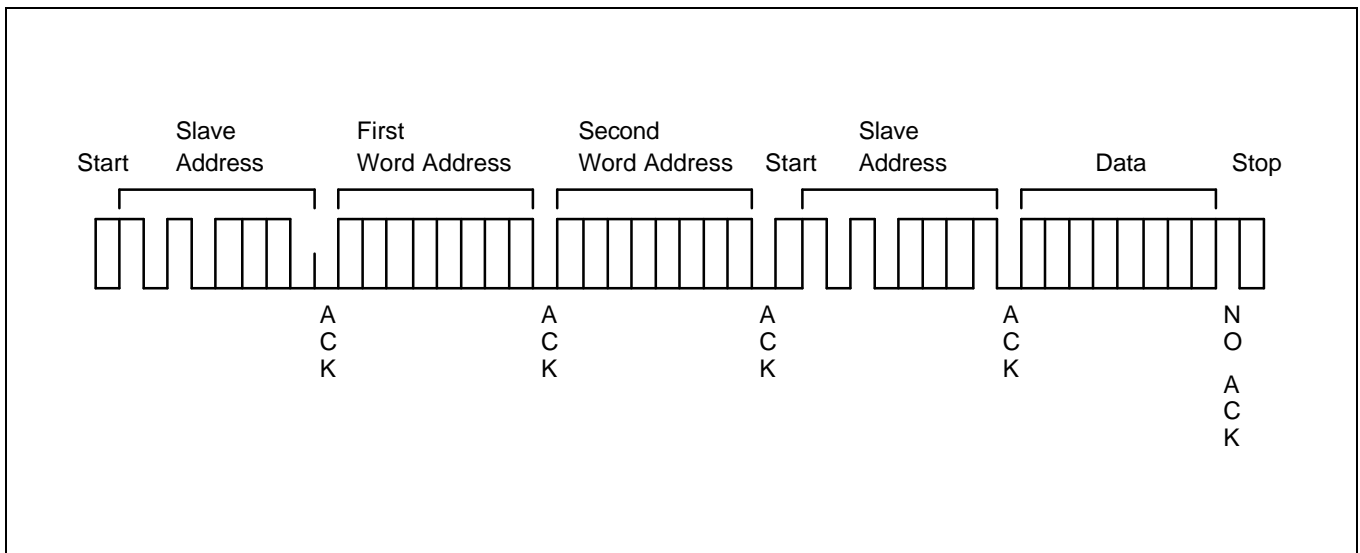

Figure 7-14. Random Address Byte Read Operation
5. The S524LB0D91/B0DB1 stops transmitting data and reverts to stand-by mode (see Figure 7-14).